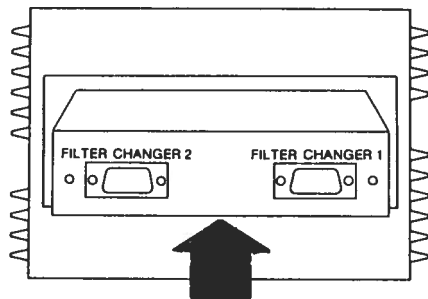

Figure 3.11 Installing Filter Changer Board
3. Install the filter changer controller board (753-352-G1) (Refer to Figure 3.11 for correct installation.) Secure the board with the two (2) screws removed in the previous step.